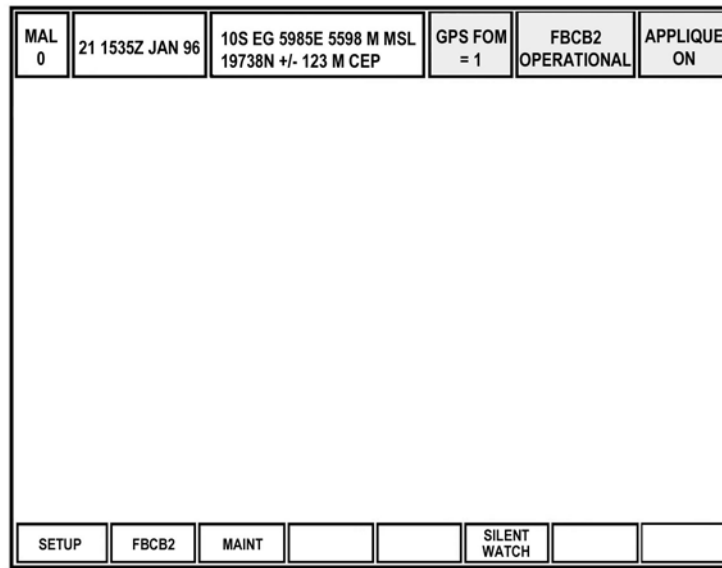

Figure 16. Silent watch.
- d. Select the silent watch function (Figure 16).